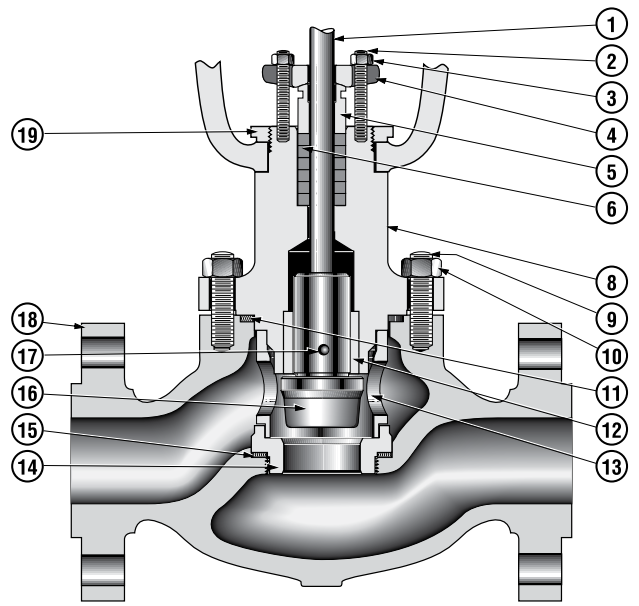

Figure 13
8.2 Quick-Change Trim (Figure 13 or 15)
- B. Install seat ring gasket (15) and seat ring (14).